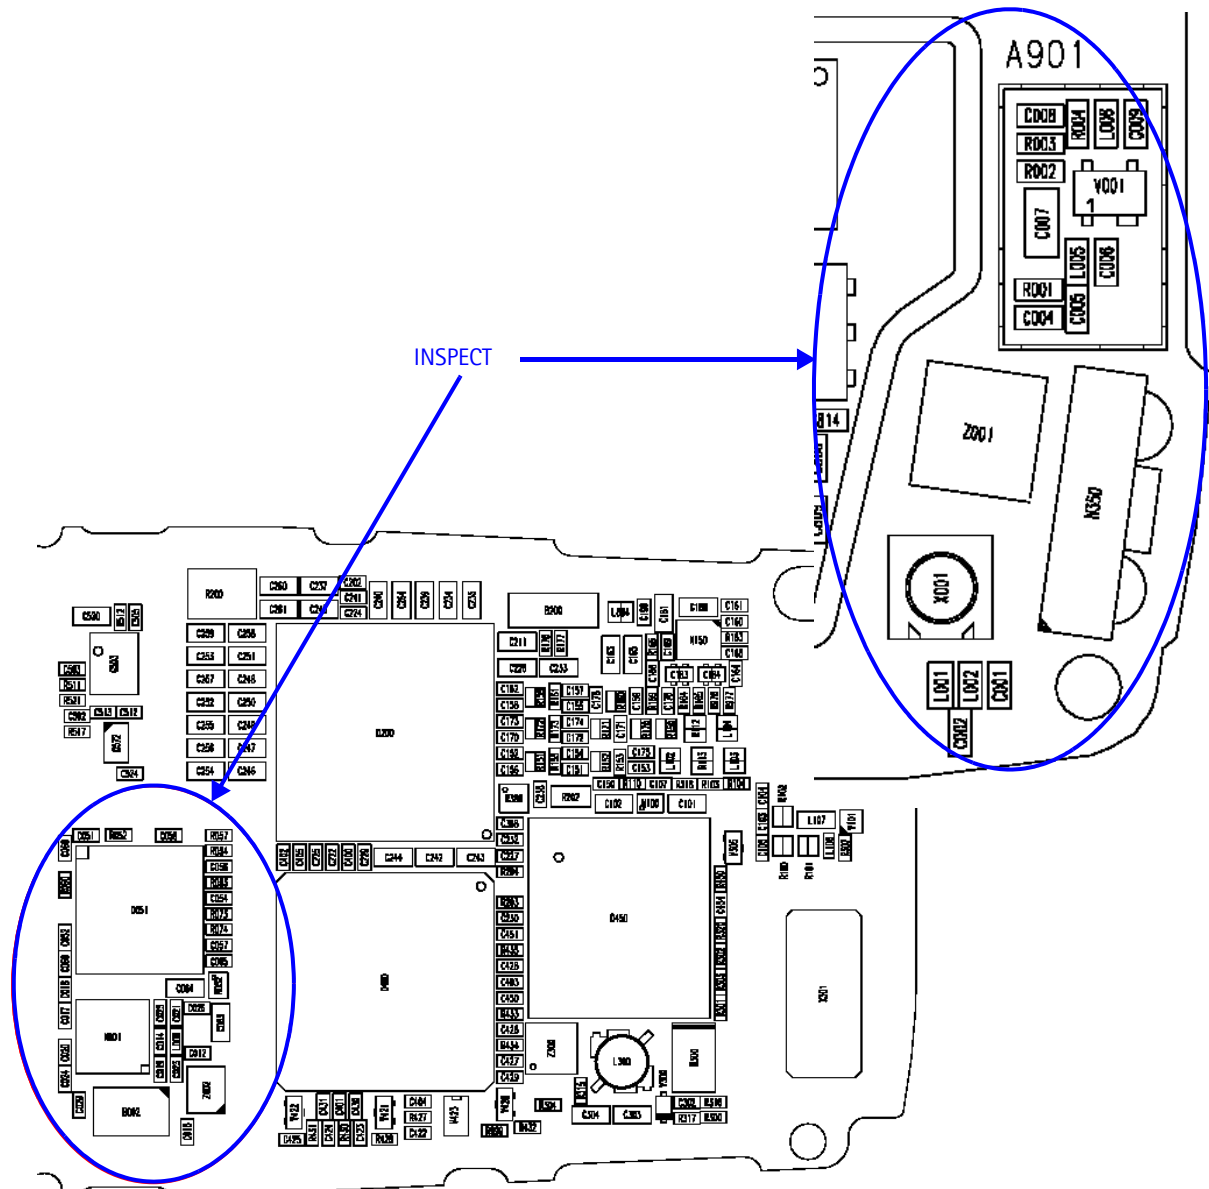

Figure 7: Inspection areas for CW test failure
8. CW Test Failure (see Figure 7):